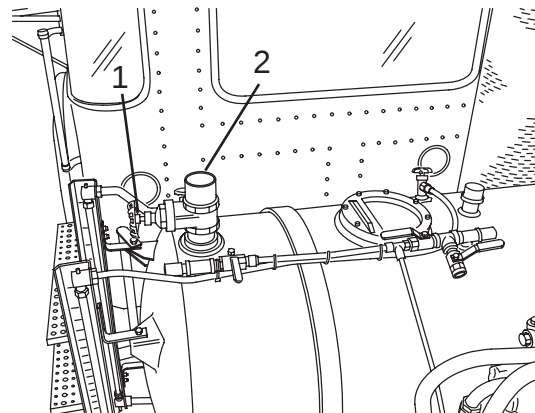

Figure 82
2. Open the chemical tank gate valve (Figure 82, Item 1) and add the chemical through the inlet (Figure 82, Item 2).